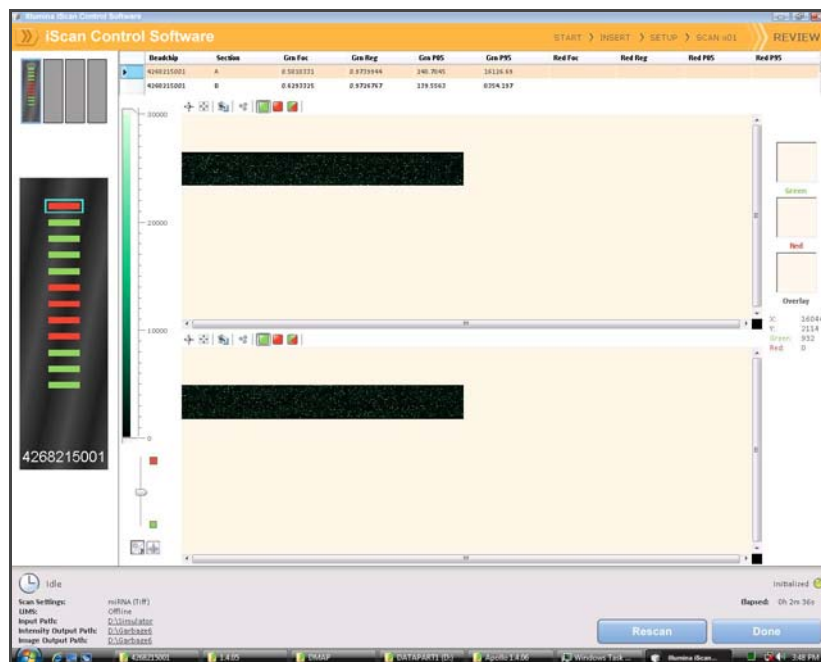

Figure 44 Review Window with Failed Stripes
13. At the end of the scan, a Review window appears (Figure 44). The Scan Metrics table at the top shows the intensity values, registration, and focus metrics for each stripe on the BeadChip.